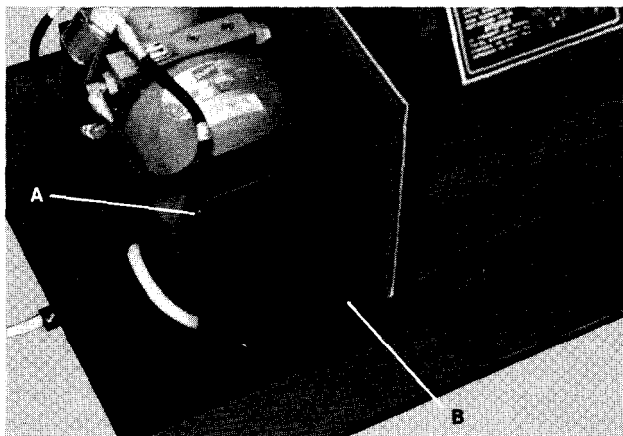

Fig. 17
- 1) Remove the control box cover by removing (4) # 6-32 x 3/8" screws, Item A, Fig. 17, and (2) # 10-24 x 3/8" Self Tapping Screws, Item B, Fig. 17. Lift the Control Box Cover from the Control Box.
- 2) Replace the Control Box cover by placing the cover in position as shown in Fig. 17, aligning holes and installing (4) # 6-32 screws, Item A, Fig. 17, and (2) # 10-24 x 3/8" Self Tapping Screws, Item B, Fig. 17.